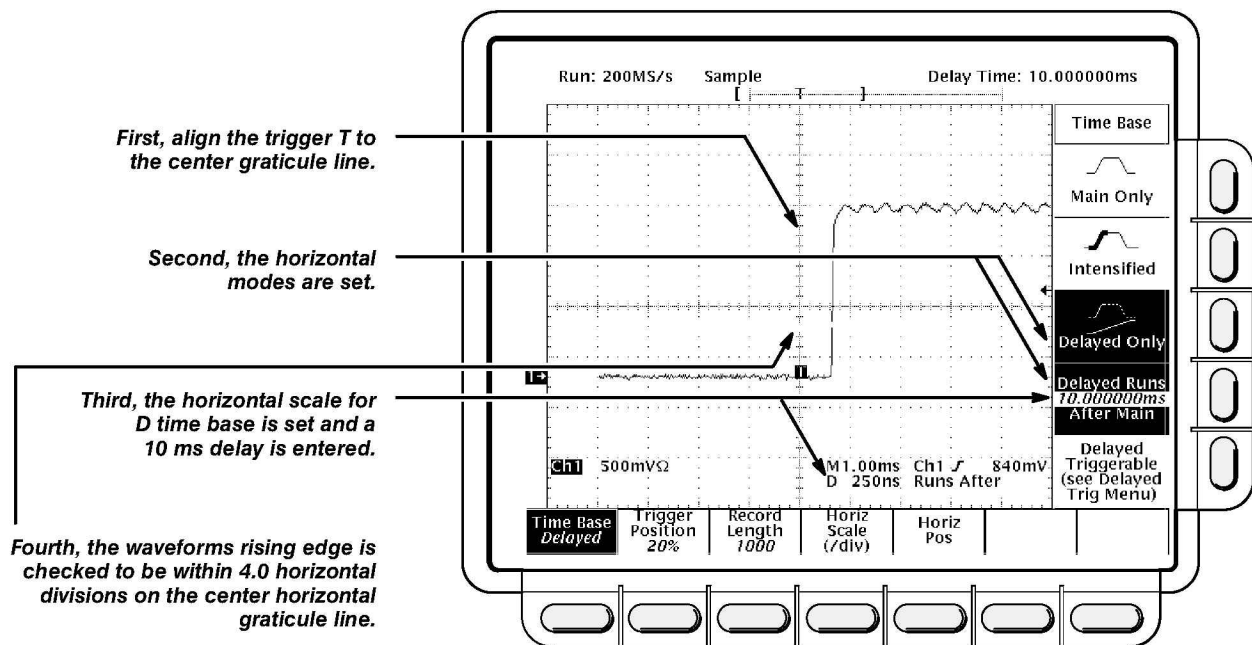

Figure 4-13: Measurement of Accuracy — Long-Term and Delay Time
- c. *Check long-term sample rate and delay time accuracies against limits:* CHECK that the rising edge of the marker crosses the center horizontal graticule line at a point within ± 4.0 divisions of center graticule (see Figure 4-13).